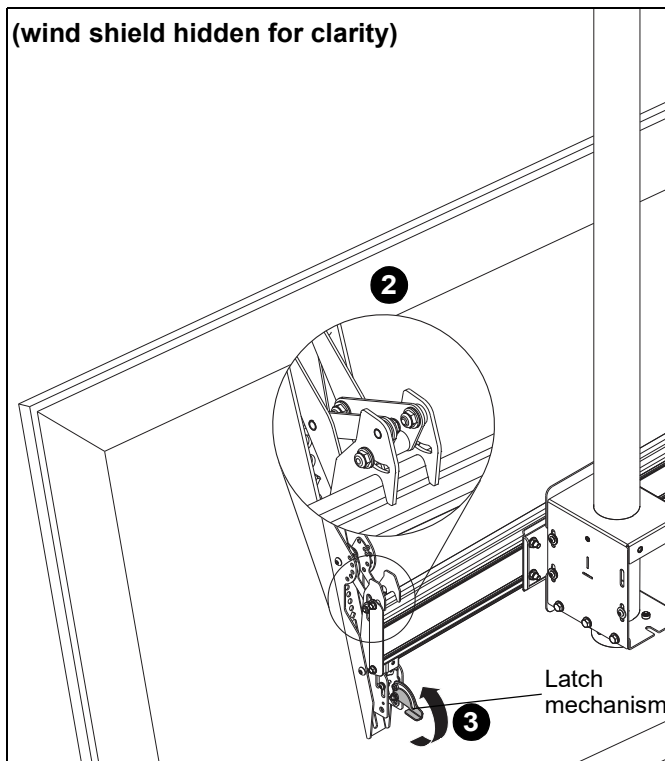

Figure 12
2. While supporting both sides of display, lower display onto ceiling mount, hooking top of interface brackets onto front of ceiling mount. (See Figure 12)
3. Raise the latch mechanism on both interface brackets to lock bracket in place. (See Figure 12)